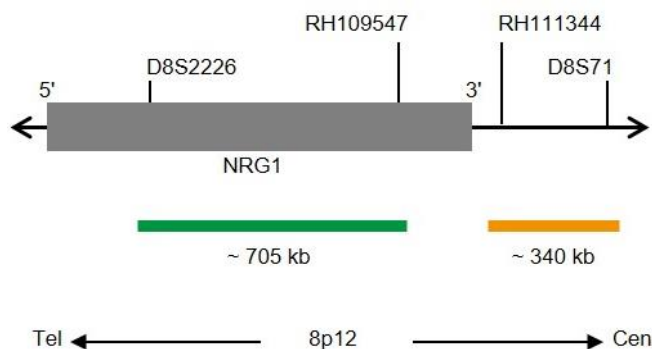

Fig. 1: SPEC NRG1 Probe map (not to scale)
- ZyGreen (excitation 503 nm/emission 528 nm) labeled polynucleotides (~10 ng/μl), which target sequences mapping in 8p12* (chr8:31,730,448-32,433,429) distal to the NRG1 breakpoint region (see Fig. 1).
- ZyOrange (excitation 547 nm/emission 572 nm) labeled polynucleotides (~4.5 ng/μl), which target sequences mapping in 8p12* (chr8:32,644,505-32,985,279) proximal to the NRG1 breakpoint region (see Fig. 1).